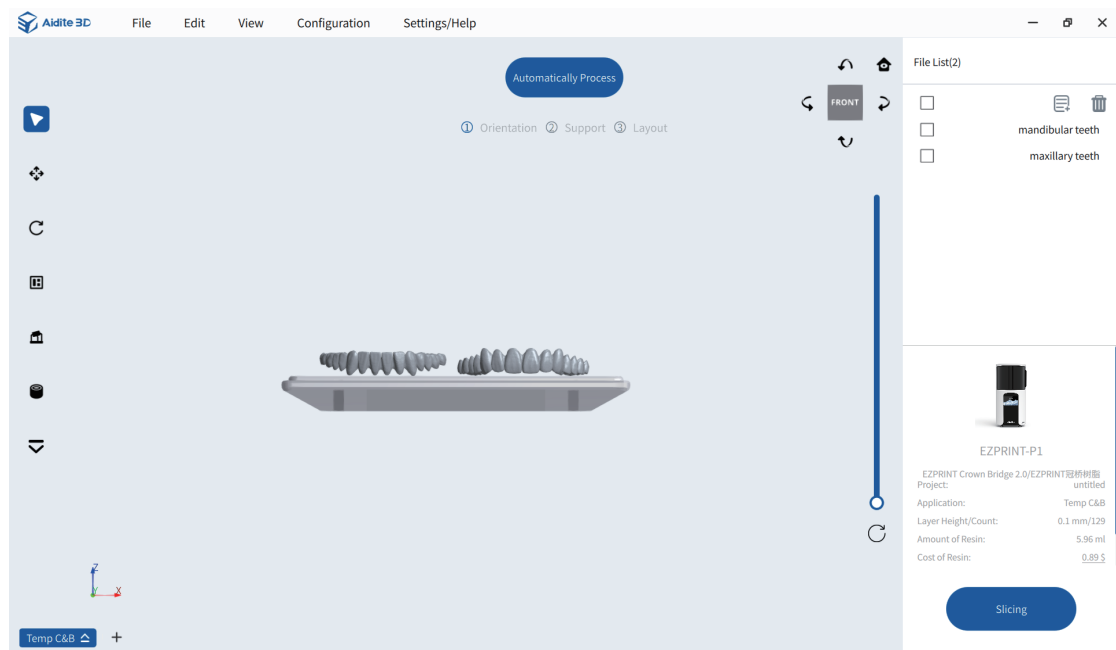
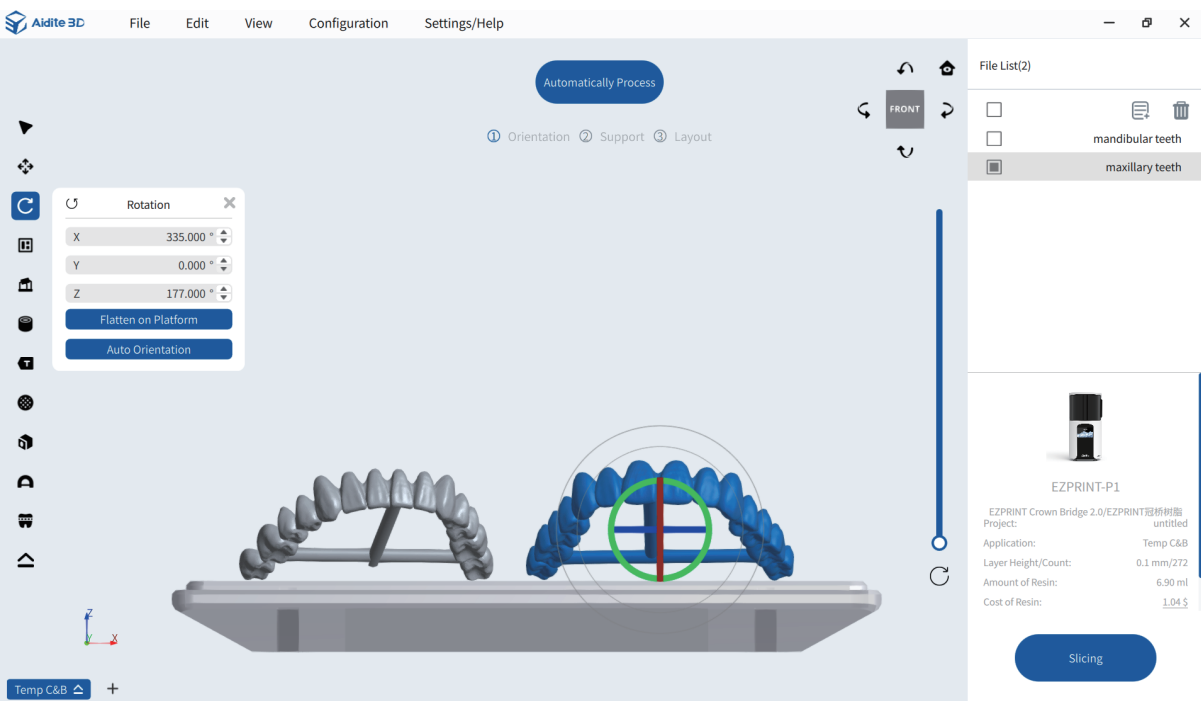

Figure 3
Figure 4
(3) Positioning of teeth: maxillofacial to the printing platform, horizontal positioning, single set of production angle Figure 3, 2 sets of denture angle into a 30-degree elevation angle Figure 4.